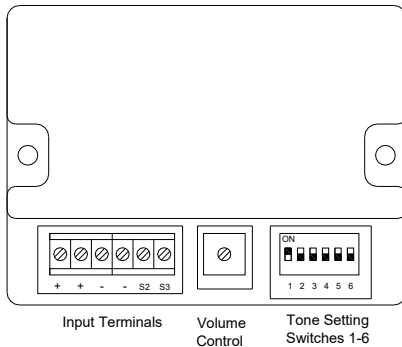

Fig 2 Location of field terminals and controls.
- c. Fit a 20mm cable gland or conduit entry into the untapped hole in the enclosure and connect the field wiring to the appropriate sounder terminals as shown in section 6 and fig 2 of this manual. The power supply terminals + and - are duplicated so that sounders may be connected in parallel, or an end of line monitoring resistor may be fitted.
- d. Select the required output tone by positioning the six switches as shown in Table 1 and Fig 2.
**Tone Selection** – To select the required first stage tone set the tone switches 1 to 6 (see Fig 2) to the tone setting shown in the table below. The table also shows which 2nd and 3rd stage tones are available for use with the selected first stage tone if more than one tone output stage is required.
The output level of the IS-A105N sounder can be set by adjusting the volume control potentiometer (see Fig 2).